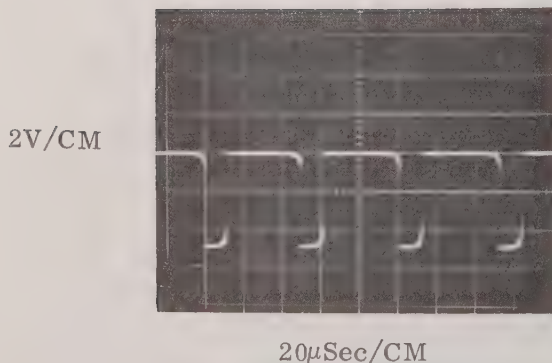

Figure 4-7. Clock Pulses
to 20 μ SEC/CM and 2 V/CM and connect leads to TP6 and ground. Clock pulses should appear as shown in Figure 4-7. If there are no clock pulses, check associated clock generators circuitry.
b. Change oscilloscope leads to TP5 and ground. Clock pulses should appear as shown in Figure 4-7. If they do not exist, check transistor Q8 on Amplifier and Logic Assembly (Figure 5-6) for operation. If Q8 is operating, replace comparator amplifier A3 on Amplifier and Logic Assembly (Figure 5-6).
c. If clock pulses appear as shown in Figure 4-7, proceed to step 6.
should appear as shown in Figure 4-7. If none exist, replace A4 on Amplifier and Logic Assembly (Figure 5-6).
b. If clock pulses, as shown in Figure 4-7, appear at pin 14 of A4, check for divide-by-ten clock pulses at pin 14 of A3 on R/O and Counter Assembly (Figure 5-4). If they do not exist, replace A4.